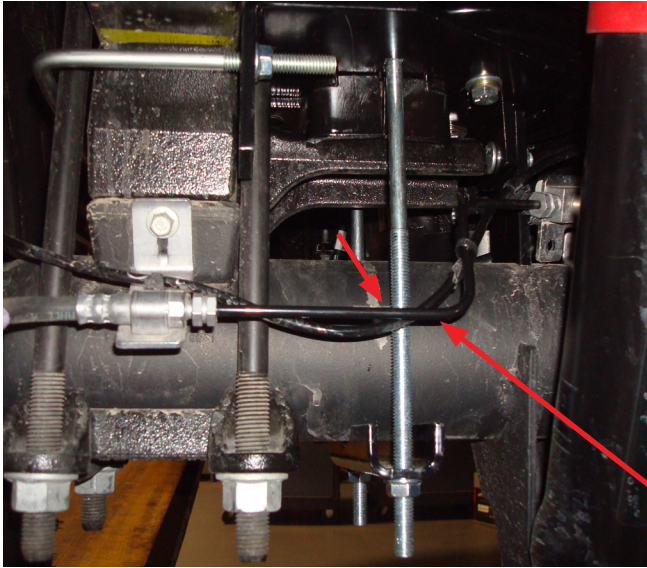
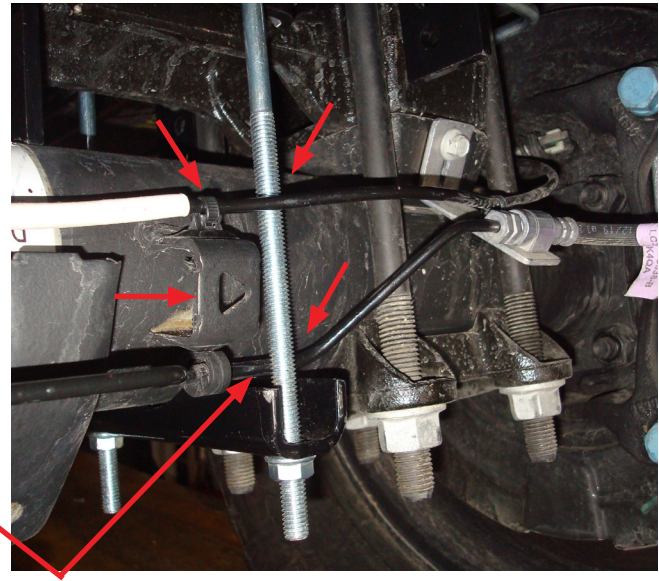

Fig. 34
Fig. 35
*On the driver's (left) side, the long carriage bolt in the lower bracket will be between the hard brake line and axle (Fig. 34). On the passenger's (right) side, the carriage bolt will be on the back side of the brake line (Fig. 35).*
12. Once the lower brackets are secured, make sure that the brake and ABS lines are not rubbing against the lower bracket carriage bolt. It may be necessary to pull or push the hard brake line away and tie off the ABS line to gain clearance. Note: on the passenger's (right) side, it may be necessary to pull the ABS tree mount out of the top of the bracket. Re-attach by installing the tree mount to the back hole on the bracket and tie off with a zip tie if necessary (Figs. 34 & 35).